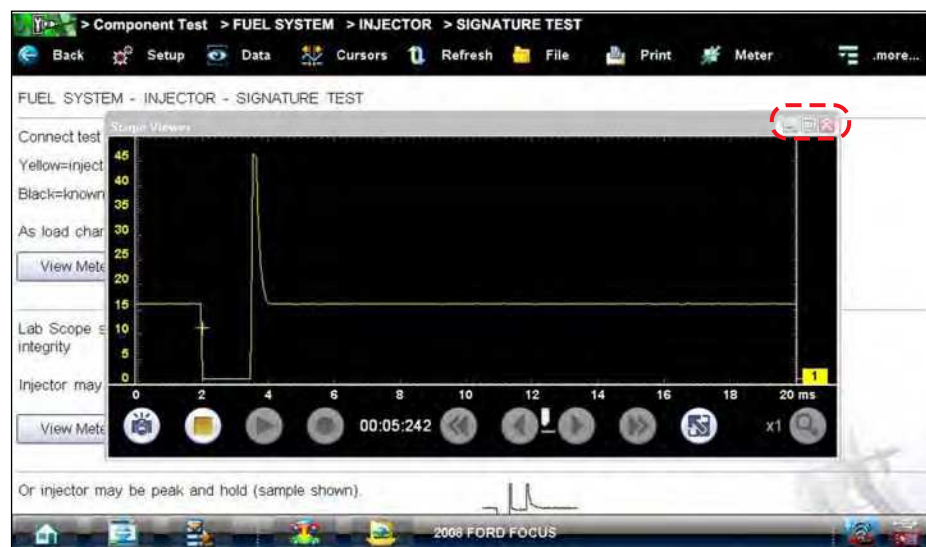

Figure 7-10 Sample meter view in a separate window
2. Tap the **Meter** button a second time and the meter open as a separate window (Figure 7-10). This window can remain open if you switch to the Scan Module and can be accessed from the Windows toolbar at the bottom of the screen. You can also resize and reposition the meter window on the screen.